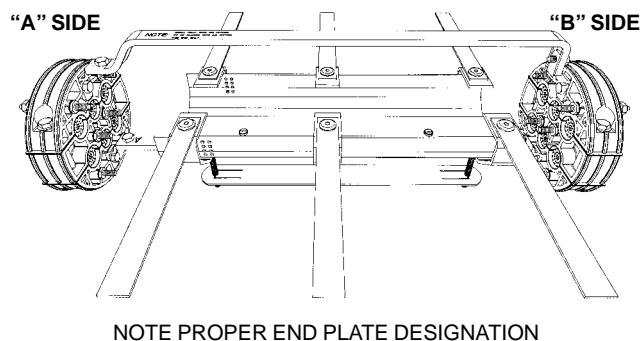

FIGURE 3 - FIBER MANAGEMENT SYSTEM
4.02 Loosely assemble the fiber management system to the End Plates as detailed in Figure 3.
- 8.01 Reassemble the Fiber Management System to the End Plates per Figure 3.